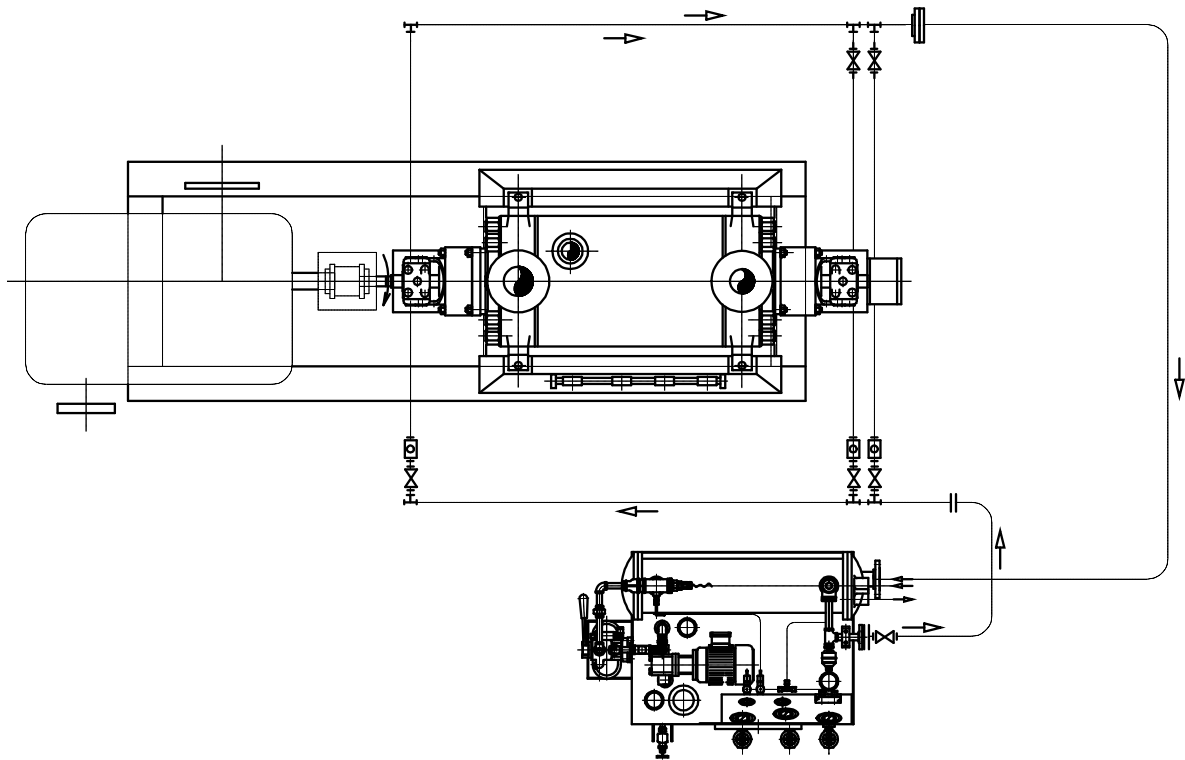

Figure 27 — Lube oil system at the side of the pump for pump bearings lubrication only
① The numbers 1 and 2 refer to the position of the connections shown on figures 27 and 28.